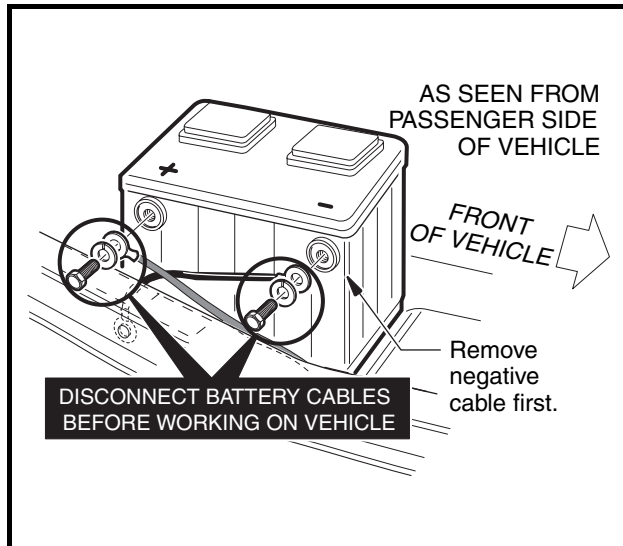

Figure 1-1 Gasoline Vehicle
- Disconnect battery cables, negative (–) cable first (Figure 1-1, Page 1-3).
- To avoid unintentionally starting the vehicle, disconnect the batteries as shown (Figure 1-1, or 1-2 on page 1-3).